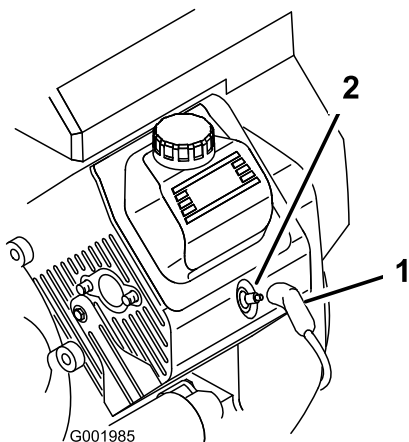

Figure 44
3. Pull the wires off the spark plugs (Figure 44).
3. Push the wires onto the spark plugs (Figure 44).